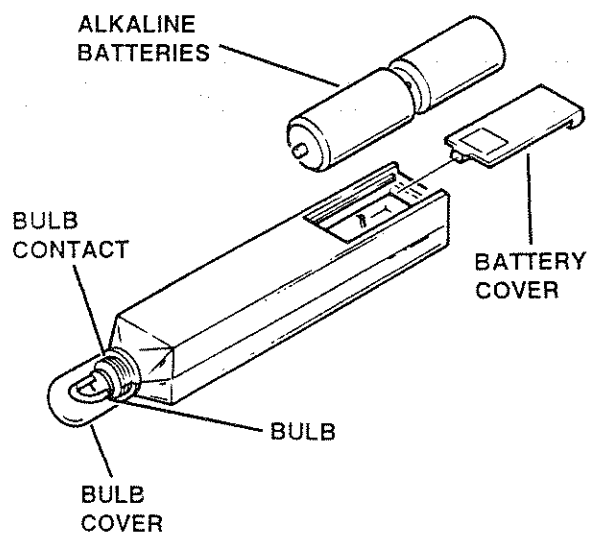

Figure 2-1. Positioning Wand
1. Slide the battery cover toward the end of the main case and remove it. See Figure 2-1.
To replace the strobe bulb refer to figure 2-1 and use the following procedure: